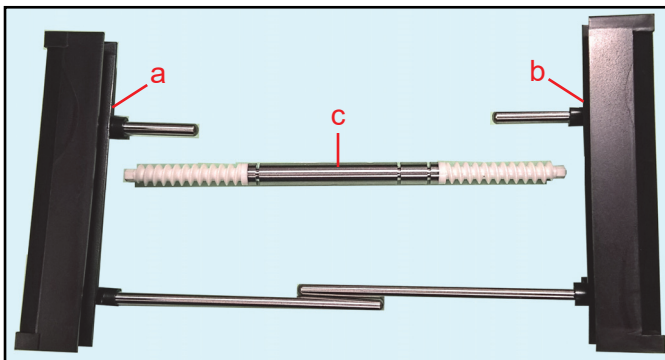

Figure 1 UBA Centering Mechanism Parts
**Note:** When servicing the UBA Centering Mechanism, JCM strongly recommends that all three parts be replaced at the same time. Replacing all parts improves the functionality of the Centering action and reduces the need for additional service. UBA Centering Mechanism Parts (refer to **Figure 1**) include:
- 200-100845R - Move Guide 1 (Left) (**Figure 1 a**)
- 200-100846R - Move Guide 2 (Right) (**Figure 1 b**)
- 200-100842R - Shaft, Move Screw (**Figure 1 c**)